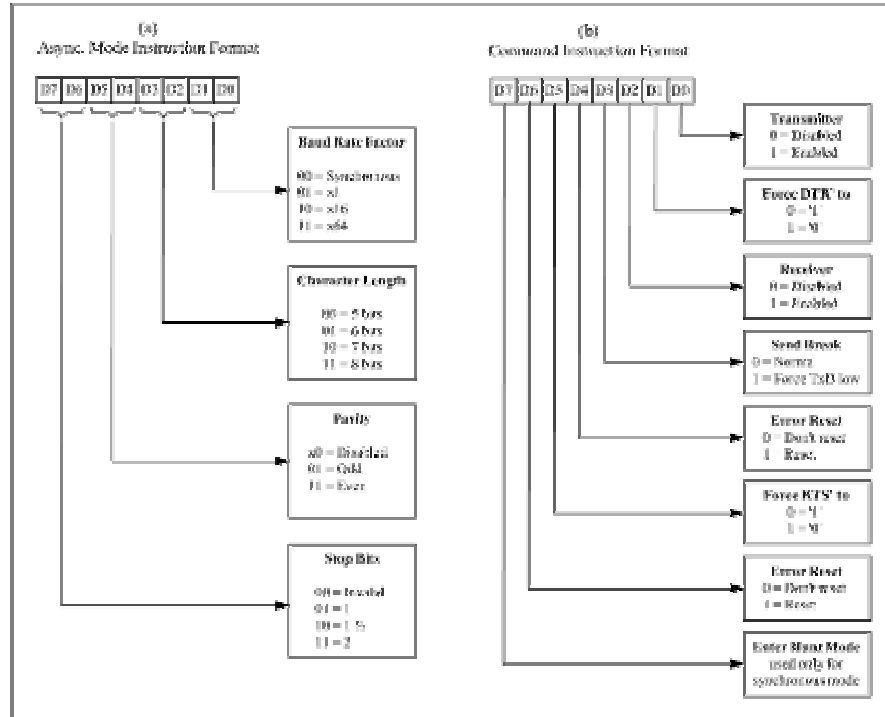

Figure 6.1: 8251 Control Words
**(1) The Mode Instruction**, which must follow a reset (internal or external) to specify the general operation of the chip. This control word can be sent through the MODE register according to the format shown in Figure 6.1 (a). The baud rate of the transmitter/receiver depends on the frequency of the input clock of the transmitter/receiver. For example, if the input clock runs at 9600Hz (i.e. 9600 cycles per second), then the 8251 can transmit/receive 9600 bits per second (i.e. 1 bit every clock cycle). The baud rate factor is used to adjust the baud rate by a certain factor (i.e. divide the baud rate by 1, 16 or 64).
**(2) The Command Instruction**, which defines the detailed operation. Command instructions can be sent after a mode instruction using the COMMAND register according to the format shown in Figure 6.1 (b). All command instructions must keep D6 zero. Setting this bit to 1 will reset the USART and make it ready to accept a new mode word.
Once the mode has been programmed the 8251 will switch to the COMMAND register. Now, you can send a command instruction according to the format shown in Figure 6.1 (b) to enable the transmitter or the receiver or both.